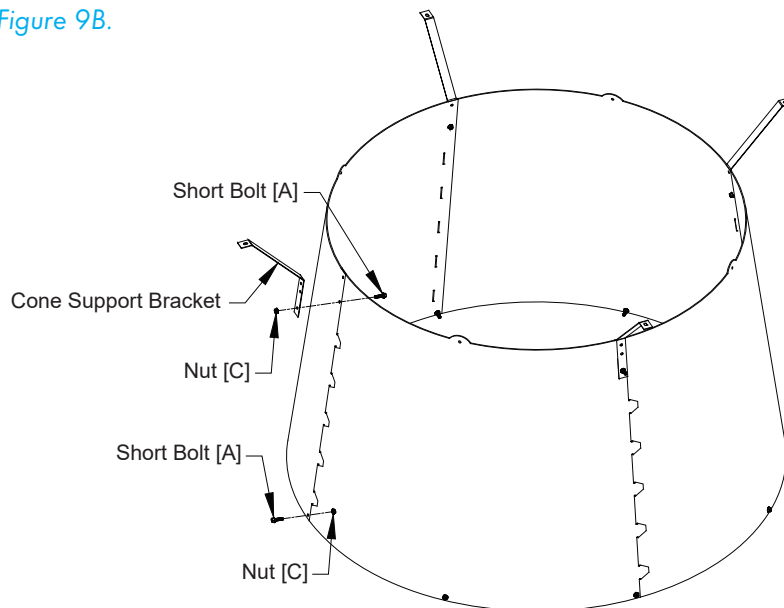

Figure 9B
Stand the cone sections on end and curl ends around to form cone with the Cone Support Bracket on the outside and the tabs on the inside. Then insert the remaining tabs into slots so the tabs are inside the cone and fasten final joint using (1) Short Bolt [A] and Nut [C], with the nut on the inside of the cone. At the inner pair of holes attach (1) Cone Bracket to the inner hole using (1) Short Bolt [A] and Nut [C] with the bolt head on the outside of the cone. See Figure 9B.